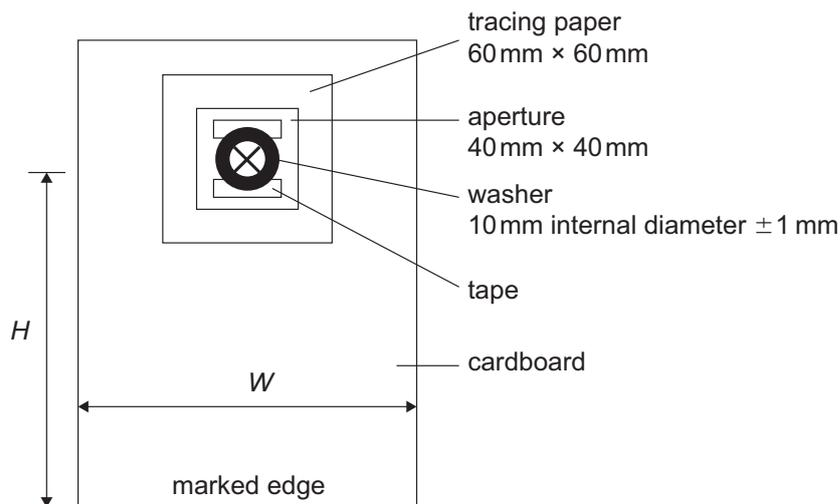

Fig. 2.1 Washer and "X" object (not to scale)
- Constructed illuminated object (washer with internal diameter $10 \pm$ mm) and crosswires as used in 2011 A23 shown in **Fig. 2.1**. 1
Measure the height H of the centre of the lens, mounted in the lens holder above the surface of the bench. Take a sheet of stiff card and use a sharp knife to cut a square aperture of side 40mm so that the centre of the square is a distance H from the marked edge of the card. The width W of the card depends on the dimensions of the lens holder. Cut a piece of tracing or greaseproof paper about 60mm square. In the centre of this square use a fine felt tip pen (of similar) to mark an "X" with the arms at least 10mm long. Place the washer over the "X" so that the intersection of the arms is at the centre of the circular hole in the washer. Using transparent self-adhesive tape, attach the washer to the tracing paper. Avoid covering any part of the hole in the washer. Place the tracing paper on the card so that the washer is at the centre of the 40mm square aperture, with the washer inside the opening. Tape the tracing paper to the cardboard. The completed object is illustrated in **Fig. 2.1**.